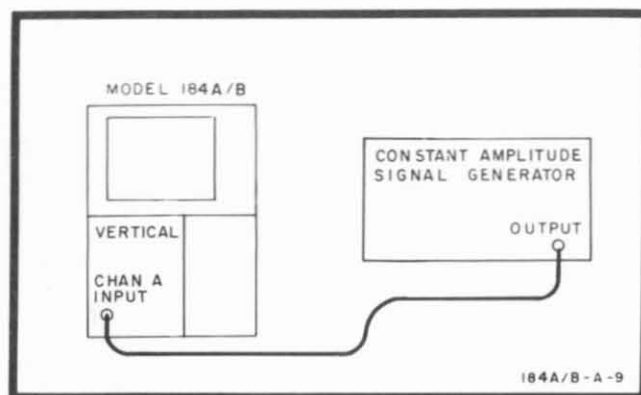

Figure 5-14. Horizontal Linearity Adjustment
- b. Connect 4V p-p 50-MHz sine wave output from constant amplitude signal generator to vertical channel A input (figure 5-14).